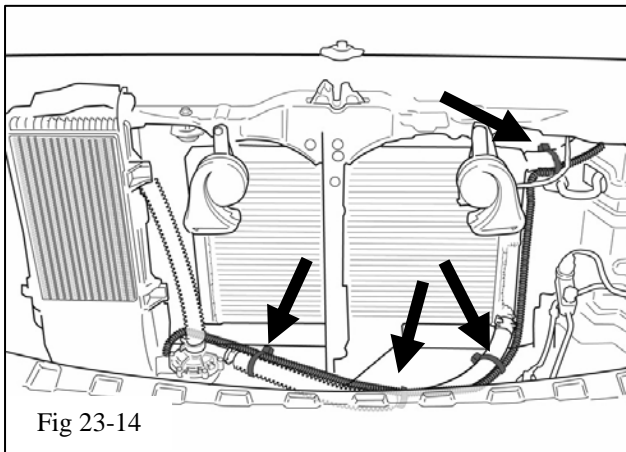

Fig 23-14
- (m) Continue down and across the  $\frac{3}{4}$ " hose between the intercooler pump outlet and the LTR inlet (Fig 23-14).
- (n) Secure with short lock ties (A5) as shown. (Fig. 23-14)